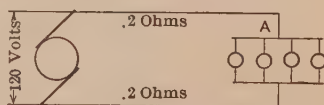

FIG. 78
**Prob. 62.** The lamp bank *A*, Fig. 78, uses 6 amperes.